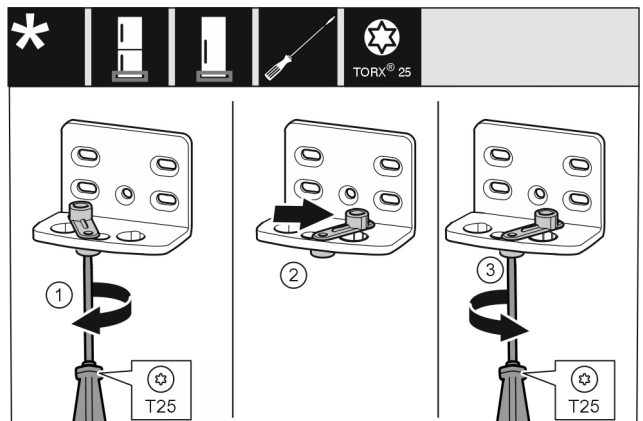

Fig. 17 *
- Use screwdriver to loosen the screw Fig. 17 (1).*
- Lift the door closing aid Fig. 17 (2) and turn 90° clockwise in the hole.*
- Tighten screw Fig. 17 (3) with screwdriver.*